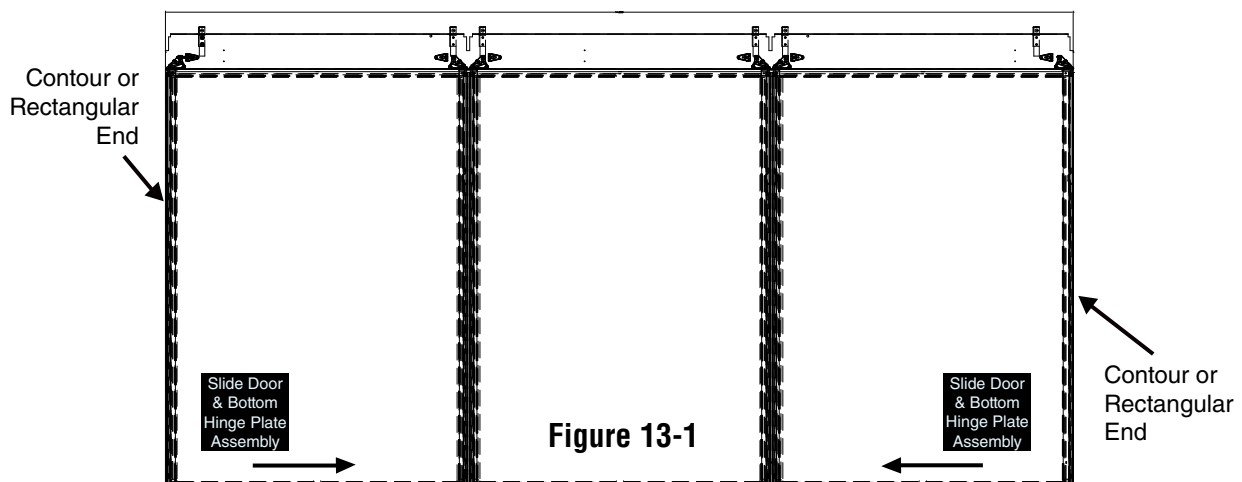

Figure 13-1
A. Remove screws from plate assembly bottom hinge. Slide the bottom of the door and the hinge assembly away from the contour / rectangular end so that the wrench will fit on the tension rod. Adjust the tension rod to the desired tension. Move door back to original position and reinsert screw into plate assembly bottom hinge. See Fig. 13-1.